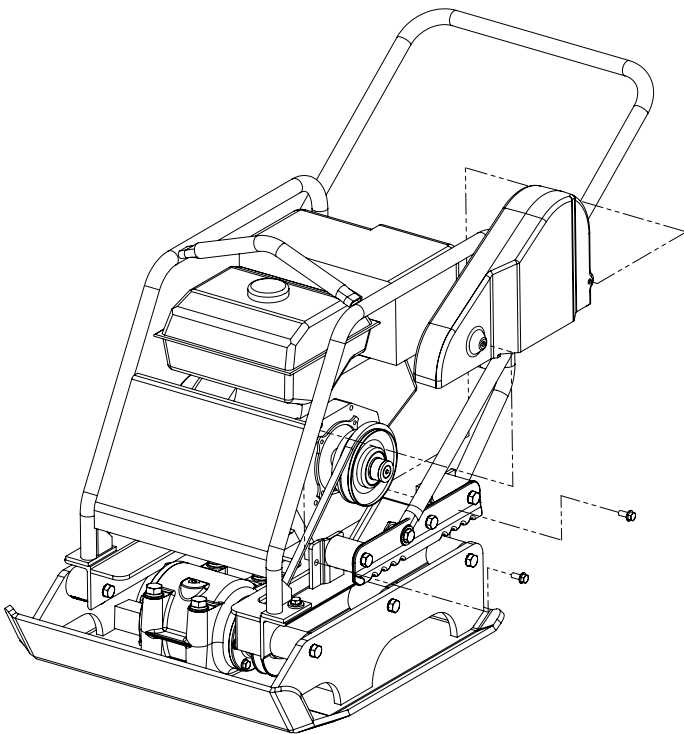

FIGURE 1
- Remove two hex head flange bolts (#10) securing belt guard to roll cage & engine deck and remove belt guard. (See Figure 1)
3. Remove belt guard as described in Belt Adjustment section of this manual. (See Figure 1)
2. Remove belt guard as described in Belt Adjustment section of this manual. (See Figure 1)